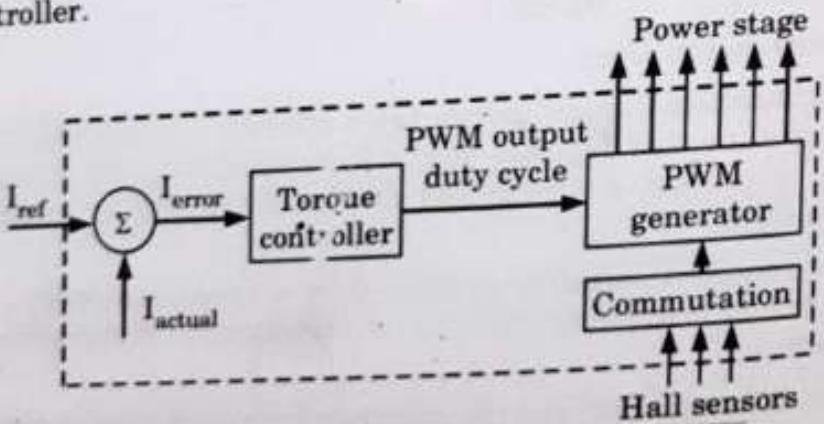

Fig. 4.15.2. Block diagram of torque controller.
4. The current controller is implemented as a conventional Proportional-Integral (PI) controller. The output from the speed controller will be input to the current controller, along with measured DC bus current.
5. The output of the current controller will control the duty cycle of the PWM pulses. Fig. 4.15.2 represents the block diagram of Torque Controller.